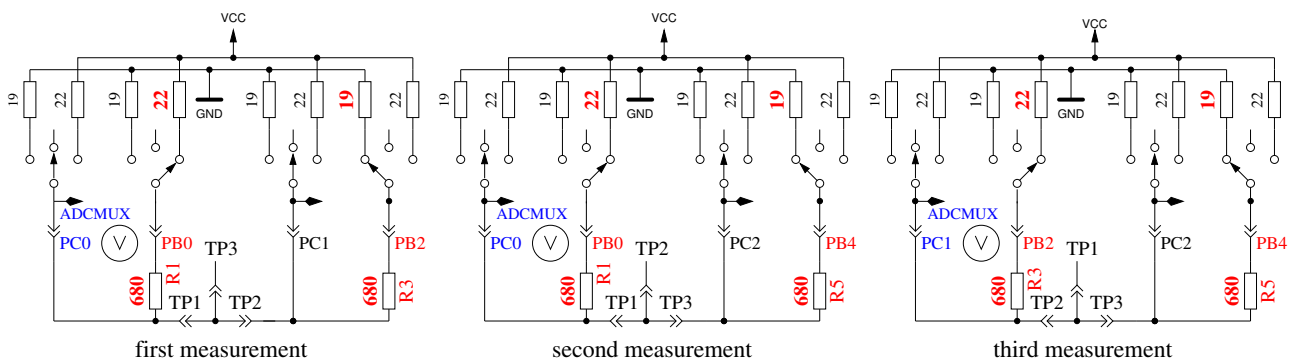

Figure 5.37: Comparison of 680Ω resistors
- Comparing of the 680Ω resistors.** In row 1 the cryptic text “+RL- 12 13 23” is shown. Meaning of this is as follows: The RL is the short form of Resistor Low meaning the 680Ω resistors. The 12 stand for: resistor at pin 1 is connected to VCC (+) and resistor at pin 2 is connected to GND (-). The result of this measurement is displayed in row 2 at the first place as difference to the theoretical value. In row 1 follows now a “13” which means, that the first connection of measurement 1 is still connected with 680Ω to VCC but that the resistor of pin 3 is connected to GND. The result is displayed in the middle place of row 2 as difference to the theoretical value. The last measurement of this test “23.” means that now the resistor at pin 2 is connected to VCC (+) and the resistor of pin 3 is connected to GND. The result of measurement is displayed at the last place of LCR row 2 as difference to the theoretical value. Please remember, that the resolution of the ADC is about 4.88mV! The measurement situation is also shown in figure 5.37. The theoretical value with respect to the internal resistance of the pins should be: $\frac{5001 \cdot (19+680)}{(19+680+680+22)} = 2493$.